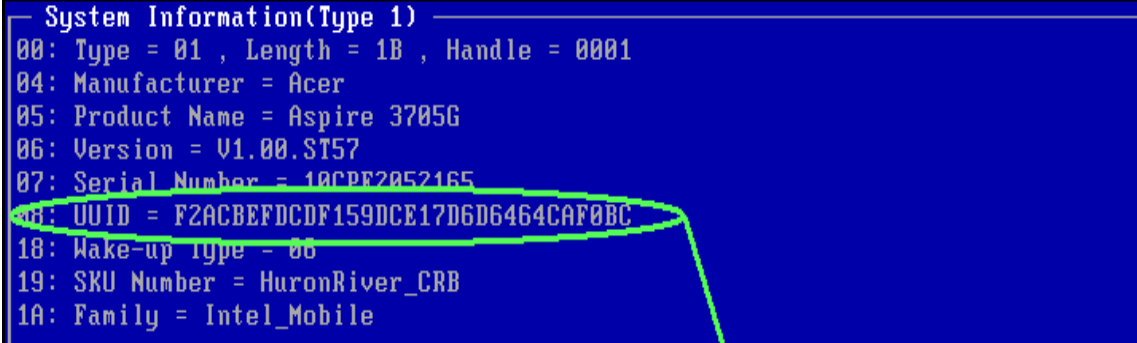

Figure 2-28. Read UUID
6. Execute < **WU.bat** > to write SMBIOS Type 1 UUID(Figure 2-28).